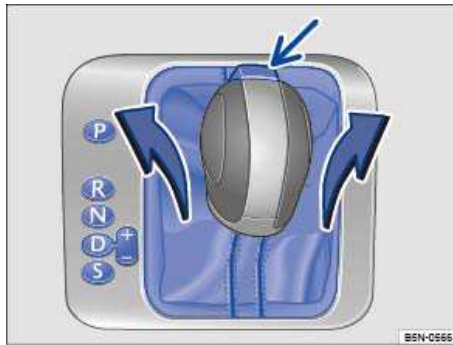

Fig. 186 Removing the selector gate cover.
- Pull upward on the cover around the selector lever sleeve ⇒ fig. 186.
- Press the release button ⇒ fig. 186 (arrow) in the selector lever handle and shift the selector lever to Neutral (**N**).